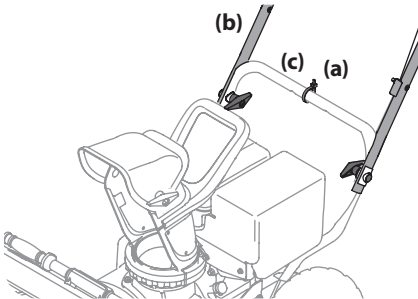

Figure 2-9
3. Slide one of the loosely fitted cable ties (a) from the right side of the lower handle (c) up to the cross member of the lower handle (c). Leave the second cable tie in place on the right side of the lower handle (c). See Figure 2-9.
4. Lift the upper handle (b) up and position it over the lower handle (c), aligning the holes where the wing knobs were removed. See Figure 2-9.